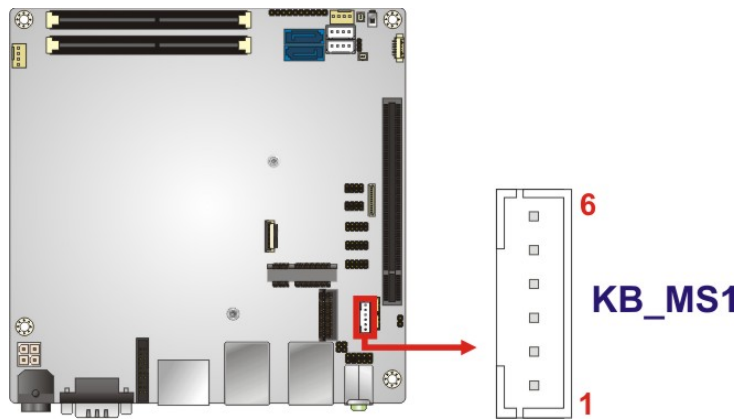

Figure 3-16: Keyboard and Mouse Connector Location
- CN Location:** See **Figure 3-16**